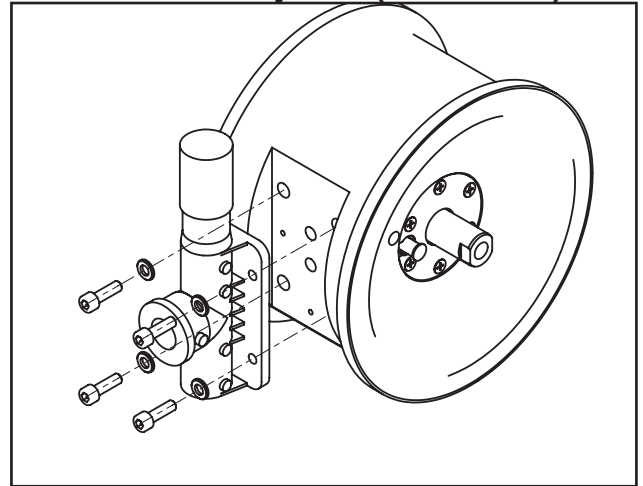

Fig. 19: DEPA AirSave System (DL15/25/40)
- Loosen four mounting screws on the control block. Now you can detach the complete control valve from the control block. This is also possible without disassembling the pump first! (Fig. 19).